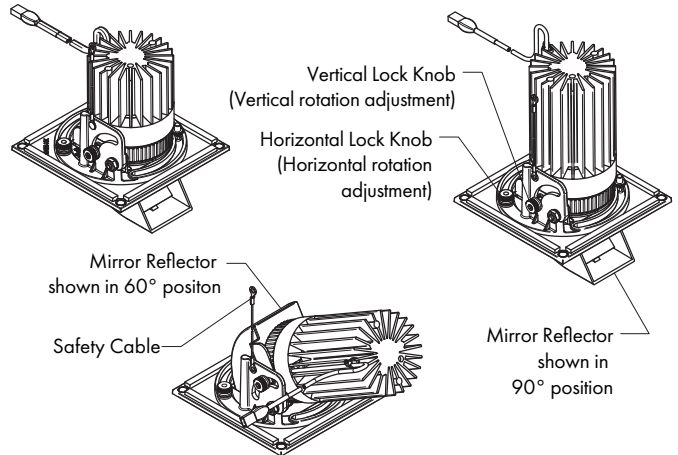

FIG 11.3 Lamp Module Adjustment
STEP 2 Adjust vertical to 90° position as shown in **FIG 11.3**. Note: angle adjustment is limited on ceilings over 5/8" thick & when Mirror Reflector is aligned facing narrow sides of Housing.